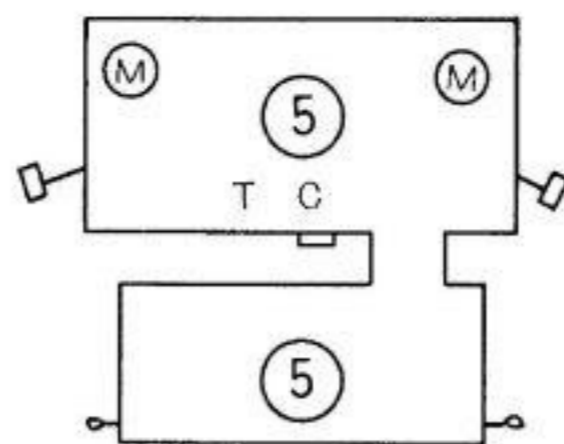

Fig. 55
9. Now turn the right hand MAS knob back to 'M' and also turn tension dial to No. 5 on the machine carriage as shown in Fig. 55.